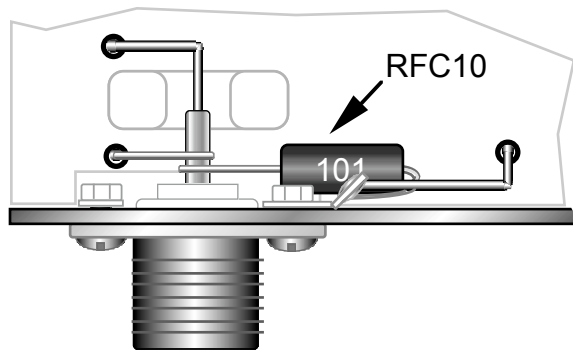

Figure 23
- Locate a large 100- $\mu$ H RF choke ("101") for use at RFC10 (0.75" lead spacing). Position the RF choke as close as possible to the rear panel as shown in Figure 23.